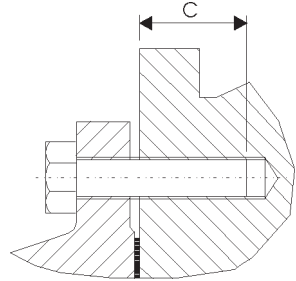

Figure 3
- For installing the meter in the pipe, use 8.8 screws in accordance with DIN 931. The screw length must be selected so that a thread reach of C mm (Table 2) into the meter is guaranteed (Figure 3). The maximum tightening torque is 110 Nm.